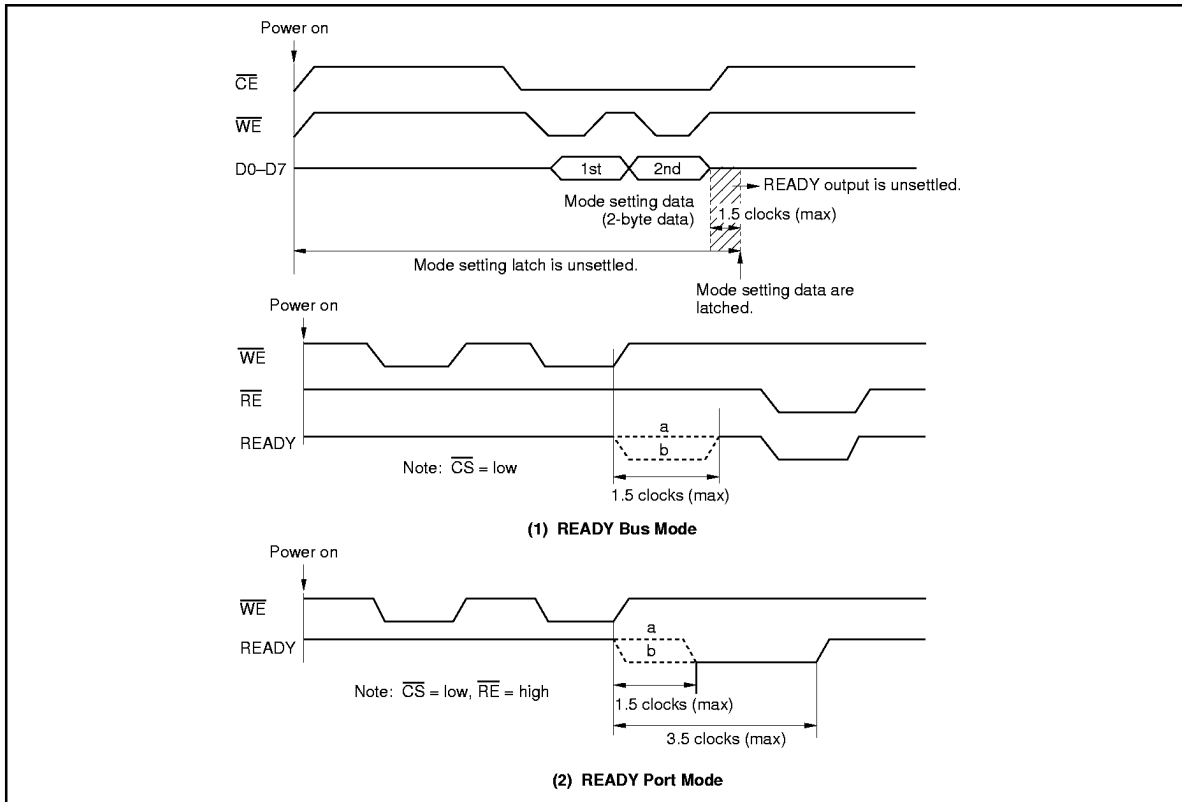

Figure 18 READY Output According to Modes
However, if you input SYNC before mode setting, waveform will be determined; when you choose READY bus mode, (1) a in Figure 18 will be output, and when you choose READY port mode, (2) a will be output. The figures can be applied both to HD61602 and HD61603.